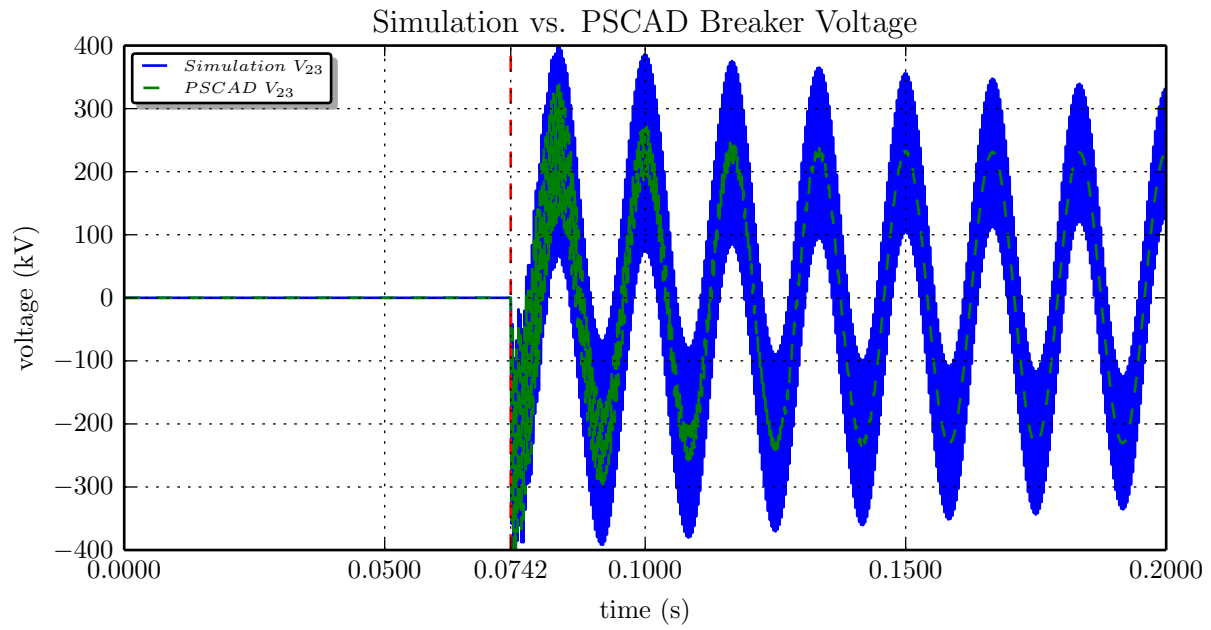

Figure 5: Plots of V_{23} breaker voltage
- Plots of V_{23} which represents the voltage across the breaker (Figures 5 and 6).